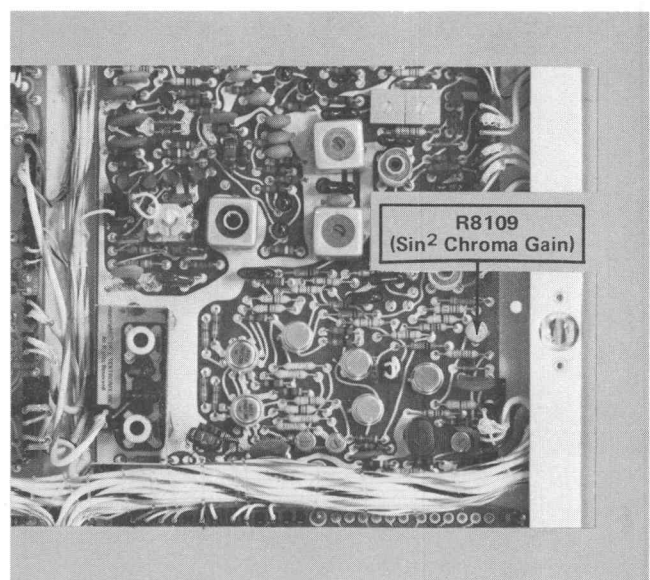

Fig. 2-13. Modulator circuit board location of adjustments.
2. Adjust R8109 (Sin² Chroma Gain), see Fig. 2-13 and R7357 (Luminance Gain) for (1) a peak modulation amplitude of 100 IRE and (2) the best flat bottom on the pulse.
6. Adjust R8109 (Sin^2 Chroma Gain), see Fig. 2-13, until the peak of chrominance within the modulated pulse is at 100 IRE and the bottom portion of chrominance within the modulated pulse is flat at 10 IRE.